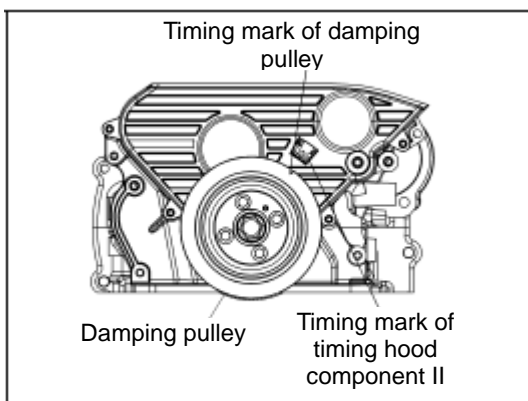

Fig. 4-1-43 Installing the timing system
(3) Align the timing marks on damping pulley and timing hood II. See Fig. 4-1-43.